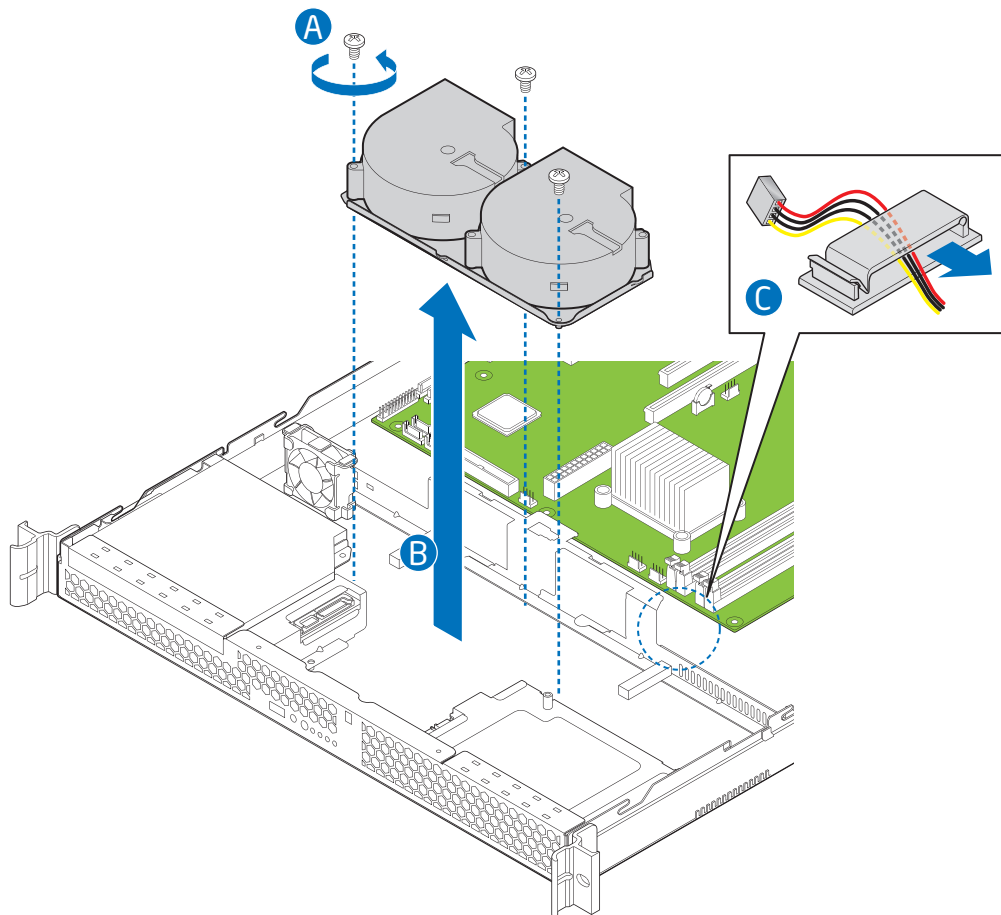

Figure 130: Removing Bracket and System Blower Fans
6. Remove the three screws that hold the fan bracket in place. Save these screws. You will re-install them later. See letter “A” in Figure 130.
7. Remove the fan cable from beneath the clip at the front of the fan bracket. See letter “B” in Figure 130.
- Lift the fan bracket from the server. Lift the bracket at an angle, front of the bracket first, to clear the hard disk drive brackets. See letter “C” in Figure 130.